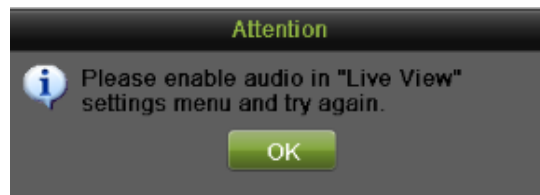

Figure 26 Enable Audio Attention Message
2. Enable audio by clicking the Enable Audio icon and disable audio by clicking the Disable Audio icon. An error message similar to the one shown in Figure 26 will pop-up if the Enable Audio option is not selected in the Live View menu for the specified channel.